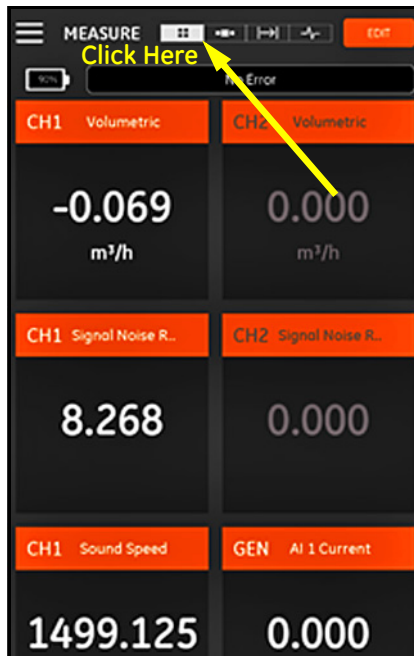

Figure 106: Multiple Measurement Screen
In *Figure 106* below, note that **CH1** has been turned **On** and **CH2** has been turned **Off** in the **PROGRAM** menu. Also, no **AI** source is connected to the **General** channel, because the value is zero.
The default measurement screen is a *multi-measurement* format, which means that all measurements which have been set up are displayed on one page with scrolling capability. An indication of this display type is the highlighted  icon at the top of the screen (see *Figure 106 on page 100*). Note the following:
- An *Error Status* box is located just above the measurement display section of the screen. If there are no system errors, **No Error** is displayed (see *Figure 106 on page 100*). However, if a system error does occur, the error information is displayed in this location with a flashing red background.